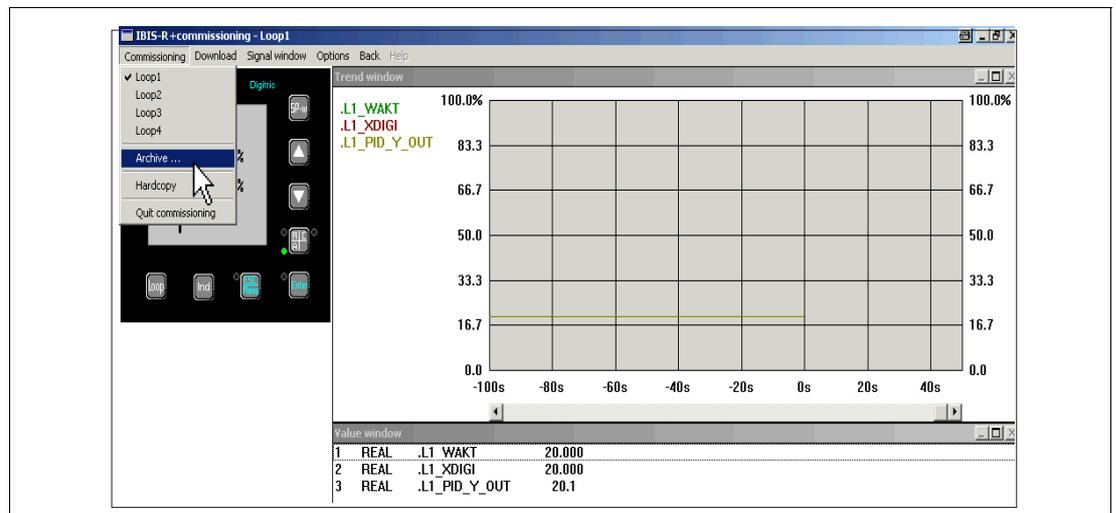

Fig. 2-2
- 2 Under **Commissioning** you find in the selection → **Archive...**, s. Fig. 2-2.